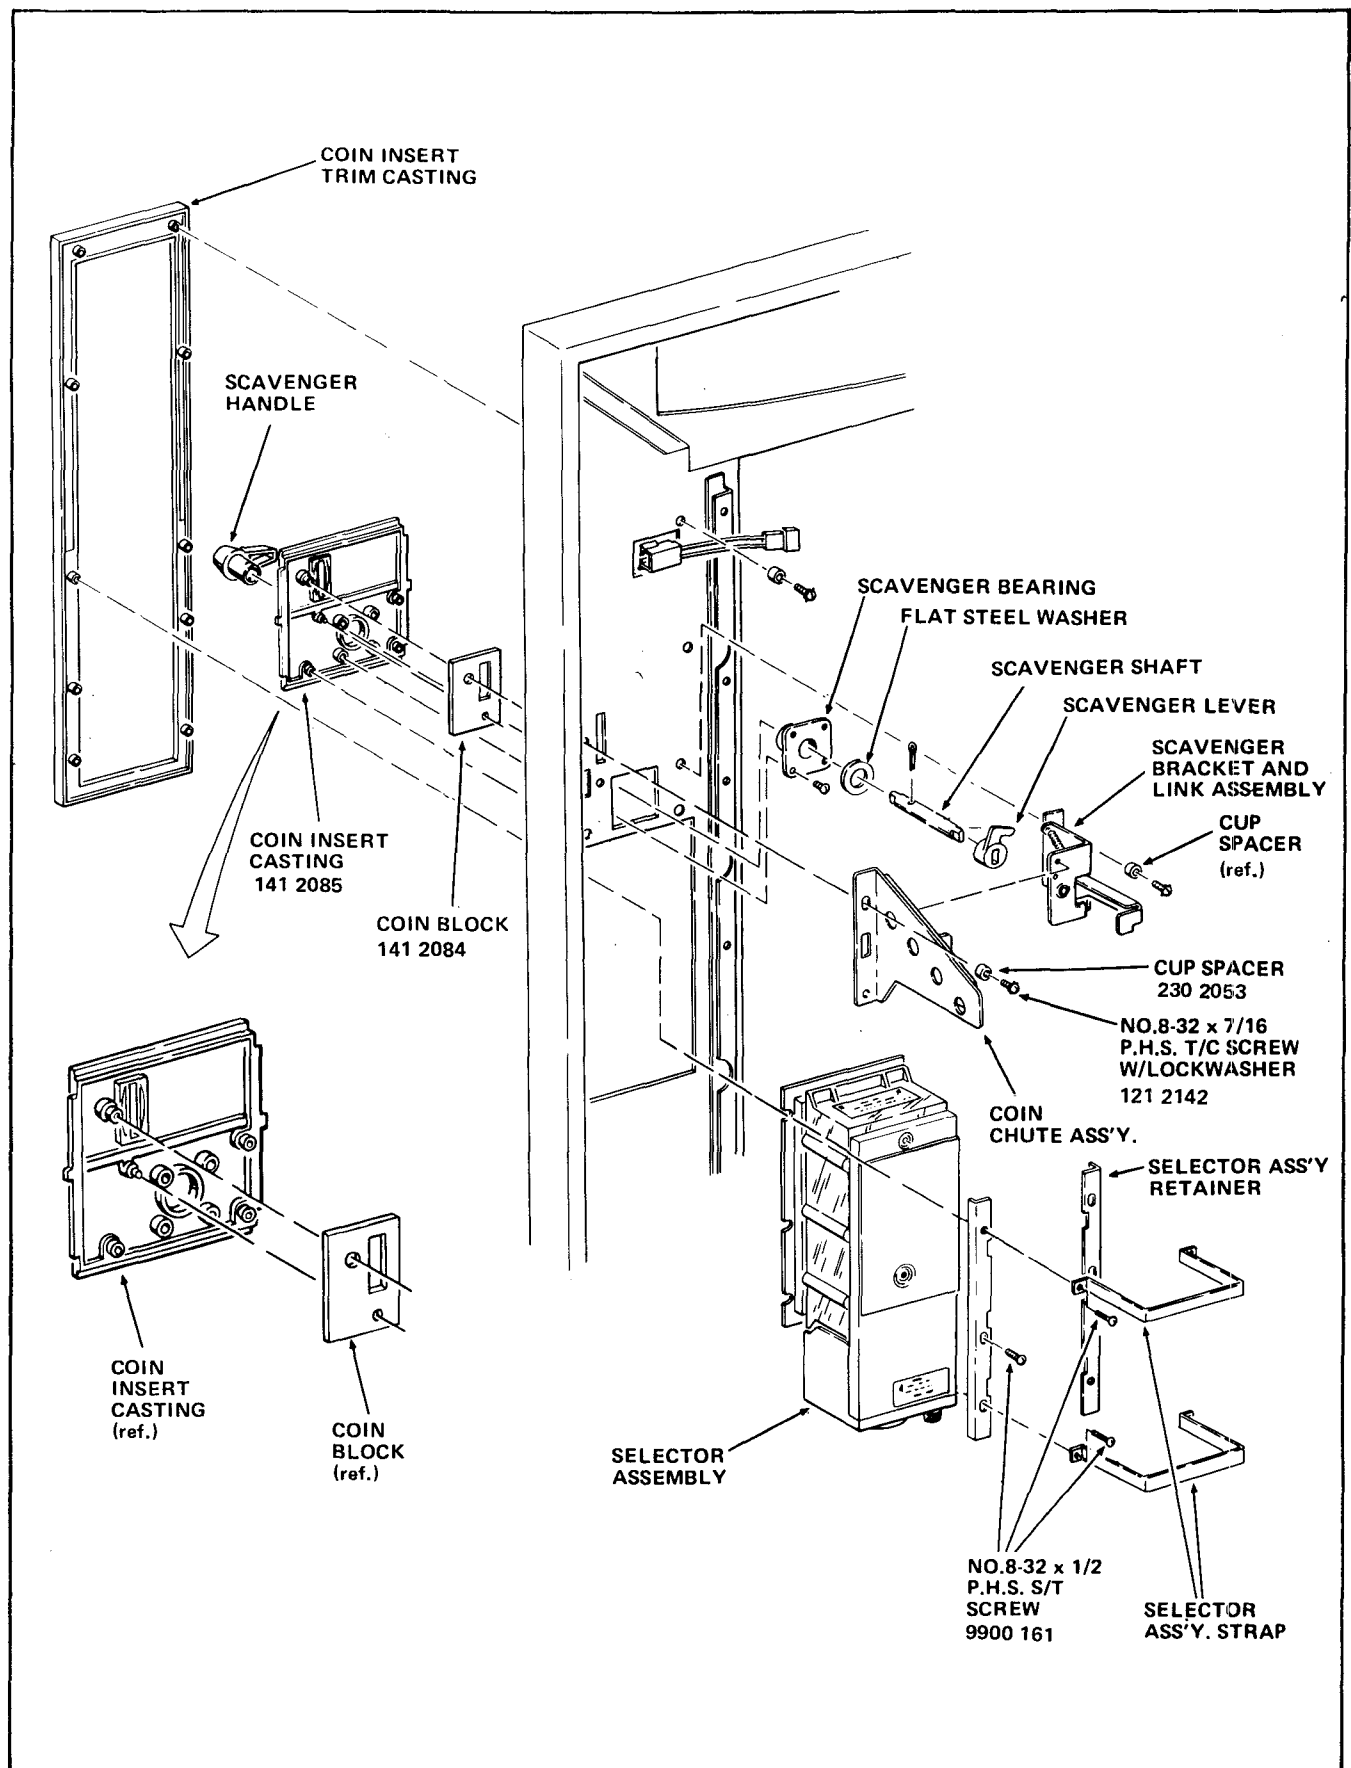

FIGURE 2
2. Remove all attaching parts from the Coin Insert Trim Casting and remove Coin Insert Trim Casting from the Cabinet Door. See Figure 2.
3. Remove the Coin Insert Chute Assembly from the Merchandiser by removing the three Screws and two Cup Spacers securing the Coin Insert Chute Assembly. See Figure 2.
4. Remove the Scavenger Bracket and Link Assembly from the Merchandiser by removing the two Screws securing the Assembly to the Merchandiser. See Figure 2.
Take note of the position of the Scavenger Lever in relation to the Scavenger Handle to assure correct positioning of these parts during reassembly. See Figure 2.
7. Remove the Flat Steel Washer, Scavenger Shaft, and Scavenger Handle from the Merchandiser. See Figure 2.
8. Remove the Scavenger Bearing and Coin Insert Casting from the Merchandiser by removing the four Screws securing the Scavenger Bearing to the Coin Insert Casting. See Figure 2.
1. Fit the Coin Block, part number 141-2084, on the Coin Insert Casting, part number 141-2085, as shown in Figure 2. Both parts are included in the kit.
3. Install the Scavenger Shaft, Flat Steel Washer, and Scavenger Handle into the Merchandiser. See Figure 2.
4. Insert Cotter Pin removed in Step A-6, into the Scavenger Handle and Scavenger Shaft holding the Scavenger Handle, Scavenger Shaft, and Flat Steel Washer in place. See Figure 2.
5. Attach the Scavenger Lever to the end of the Scavenger Shaft with the Scavenger Lever pointing in the same direction as the Scavenger Handle. See Figure 2.
Before securing the Scavenger Bracket and Link Assembly into position, be certain that the Scavenger Lever is resting on top of the Scavenger Link and in the proper position. See Figure 2.
8. Hold the Coin Insert Trim Casting into position on the Cabinet Door and partially secure with the upper four Screws and Cup Spacers removed in Step A-2. See Figure 2.
9. Hold the Selector Assembly into position on Cabinet Door and secure the Selector Assembly and Coin Insert Trim Casting with the remaining attaching parts removed in Step A-2. See Figure 2.
1. Install the Selector Assembly Retainers first, then install the Selector Assembly Straps. See Figure 2.